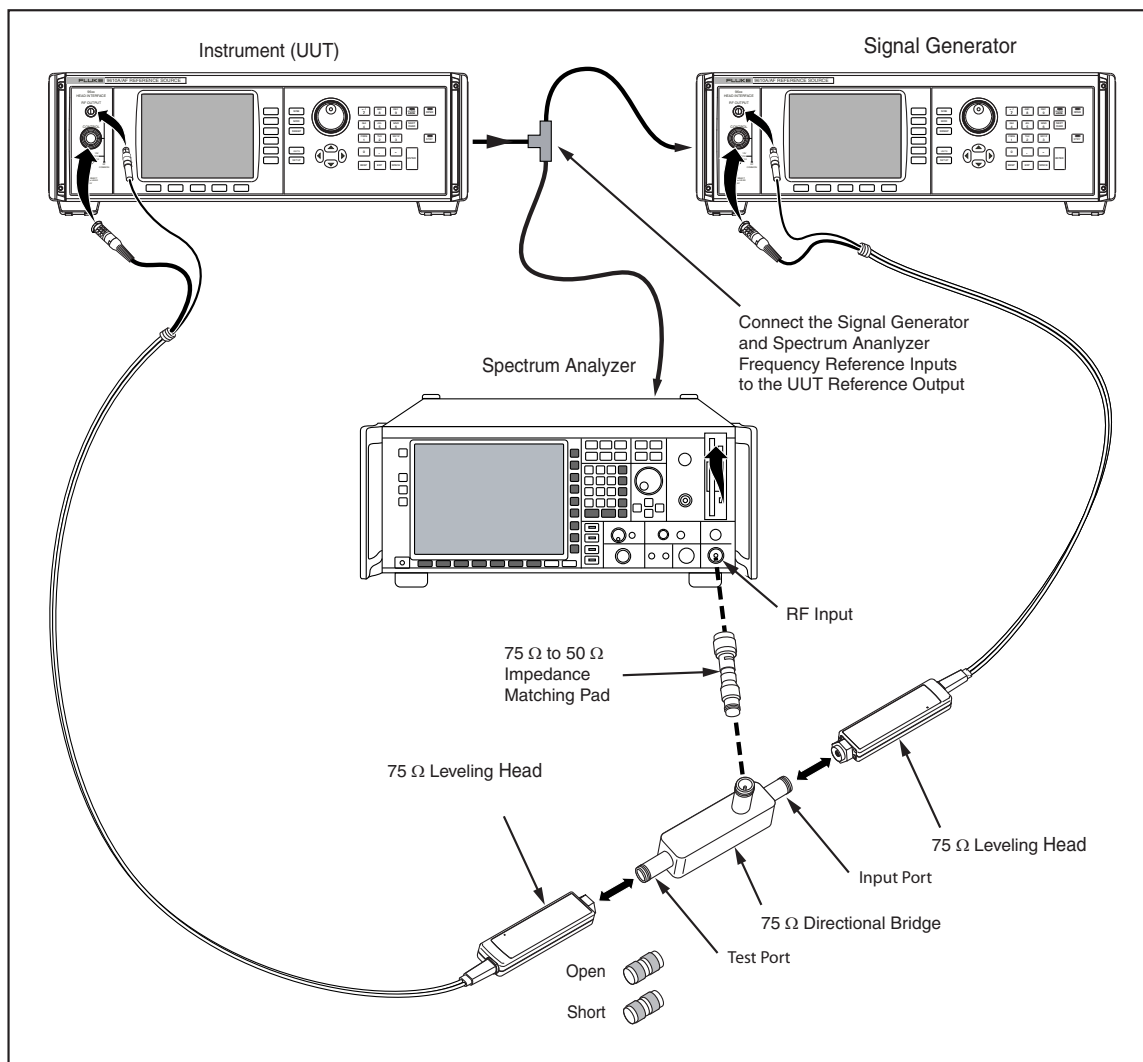

Figure 5-13. Equipment Connections - VSWR Test (75 Ω)
3. Connect the signal generator RF output to the input port of the directional bridge. Connect the directional bridge coupled (output) port to the spectrum analyzer input using a 75 Ω to 50 Ω impedance-matching pad. See Figure 5-13.